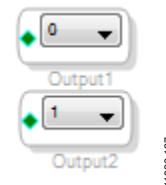

Figure 25. Output Blocks
- ii. Repeat the previous step to add another output (see Figure 25).